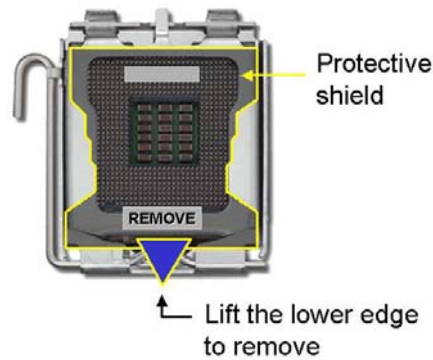

Figure 5-2: Remove the CPU Socket Protective Shield
Step 1: Remove the protective cover. Remove the black protective cover by prying it off the load plate. To remove the protective cover, locate the “**REMOVE**” sign and use your fingernail to pry the protective cover off. See **Figure 5-2**.